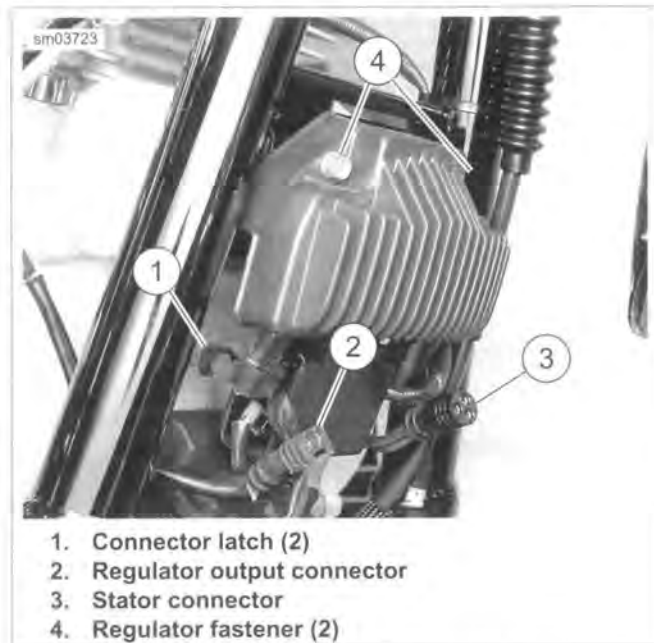

Figure 7-61. Voltage Regulator
2. See Figure 7-61. Release latches (1) from each connector.
3. Disconnect stator connector (3) and regulator output connector (2).
4. Remove regulator fasteners (4).
1. See Figure 7-61. Install voltage regulator with regulator fasteners (4). Tighten to 100-120 **in-lbs** (11.2-13.6 Nm).
2. Connect regulator output connector (2).
3. Connect stator connector (3).
4. Secure latches (1) on both connectors.